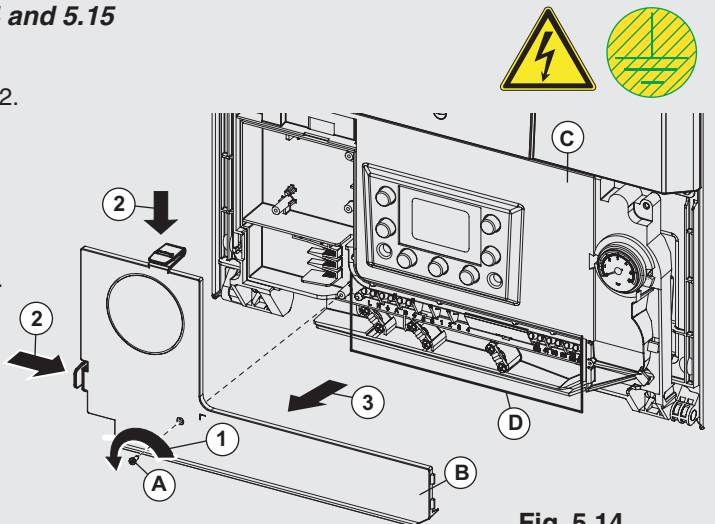

Fig. 5.14
## 5.10 CONNECT THE MAINS SUPPLY - Figs. 5.14 and 5.15
1. Remove the one screw 'A' in Fig. 5.14.